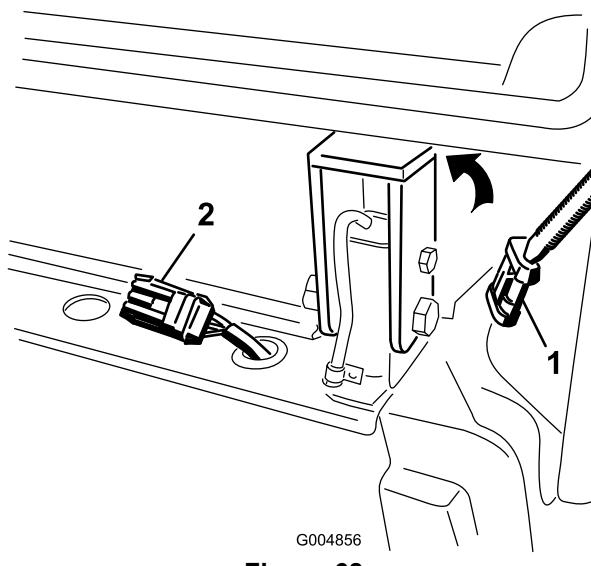

Figure 68
- 3. Remove the cap and plug the cab wire harness connector into the harness on the rear frame mount (Figure 68).